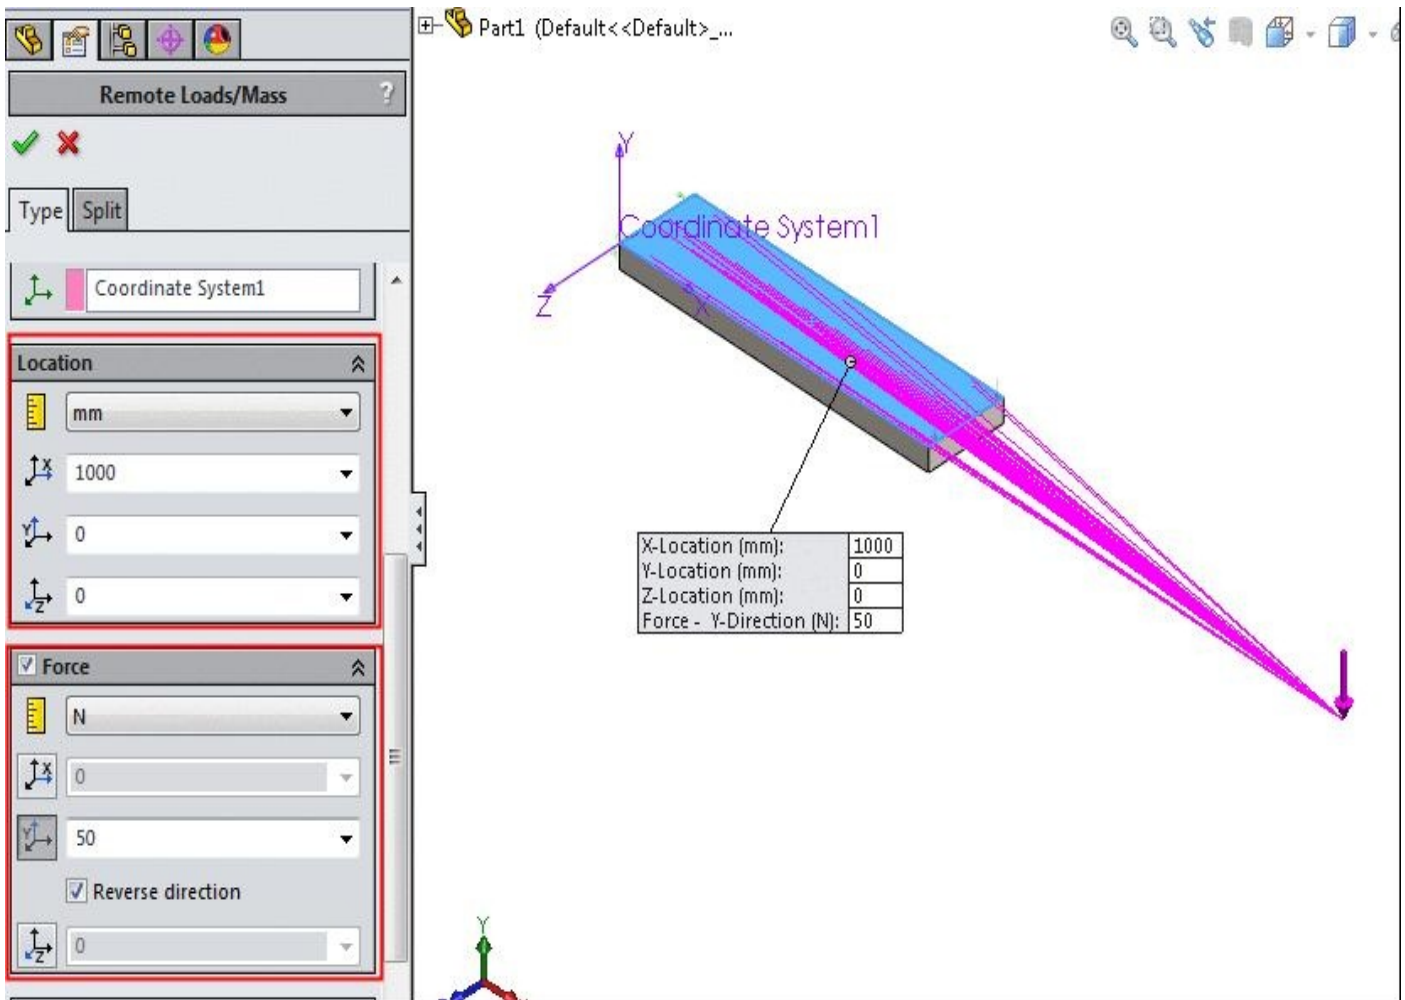

Figure-53. Remote load location
- Specify the location of remote point by using the edit boxes in the **Location** rollout in the **PropertyManager**; refer to Figure-53.